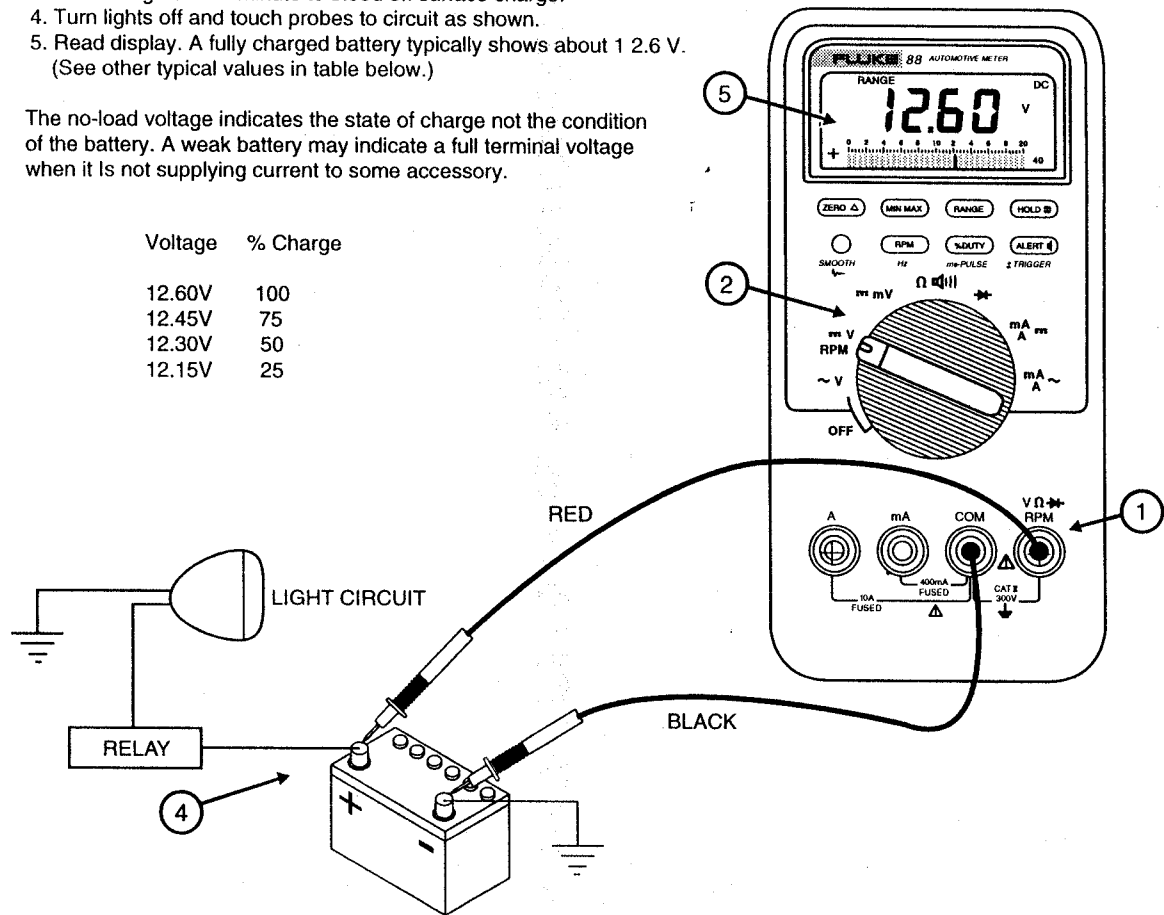

Figure 6. Measuring No-Load Voltage of Battery
3. Touch the probes to the circuit, with the red probe nearer to the voltage source than the black probe. This puts the Meter in parallel with the circuit (see example in Figure 6). *Voltage must always be measured with the Meter in parallel with the circuit.*
Figure 6 shows how to measure the no-load voltage of a battery.